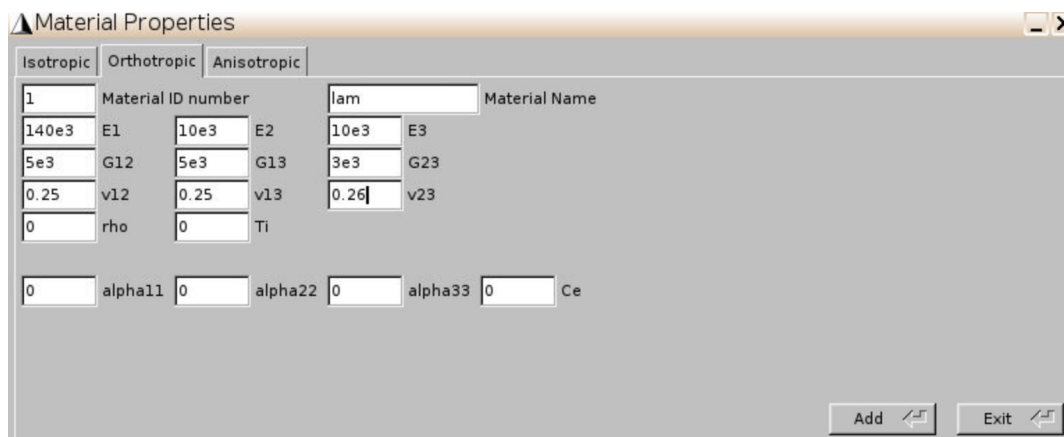

Fig. 1
- Open Gmsh4SC and create a new model (Change the default name). Click Material->Thermoelastic and input the lamina properties as shown in Fig. 1. Click add and close.